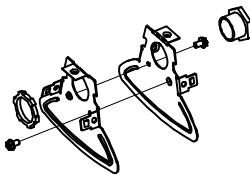

FIG 6: JOINER ASSY
- 2) Remove joining end caps by spreading open the channel and sliding endcaps off. Remove KOs and secure the endcaps together with customer supplied (2) #8 screws and (1) 1/2" chase nipple to create joiner as shown in FIG 6.